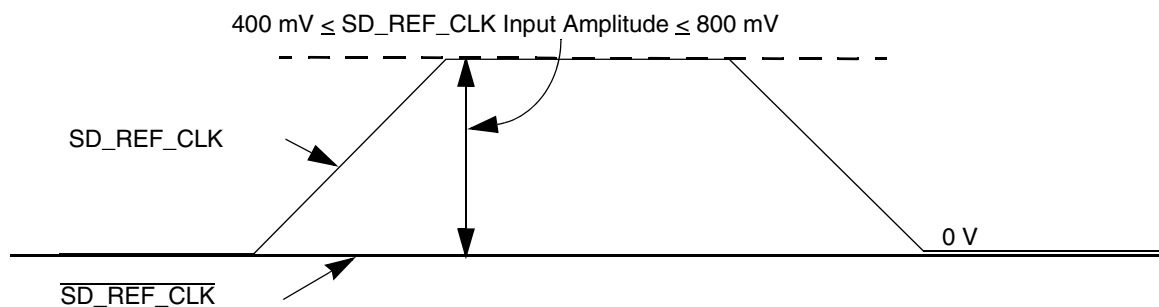

Figure 19. Single-Ended Reference Clock Input DC Requirements
- The SD_REF_CLK input average voltage must be between 200 and 400 mV. Figure 19 shows the SerDes reference clock input requirement for single-ended signaling mode.